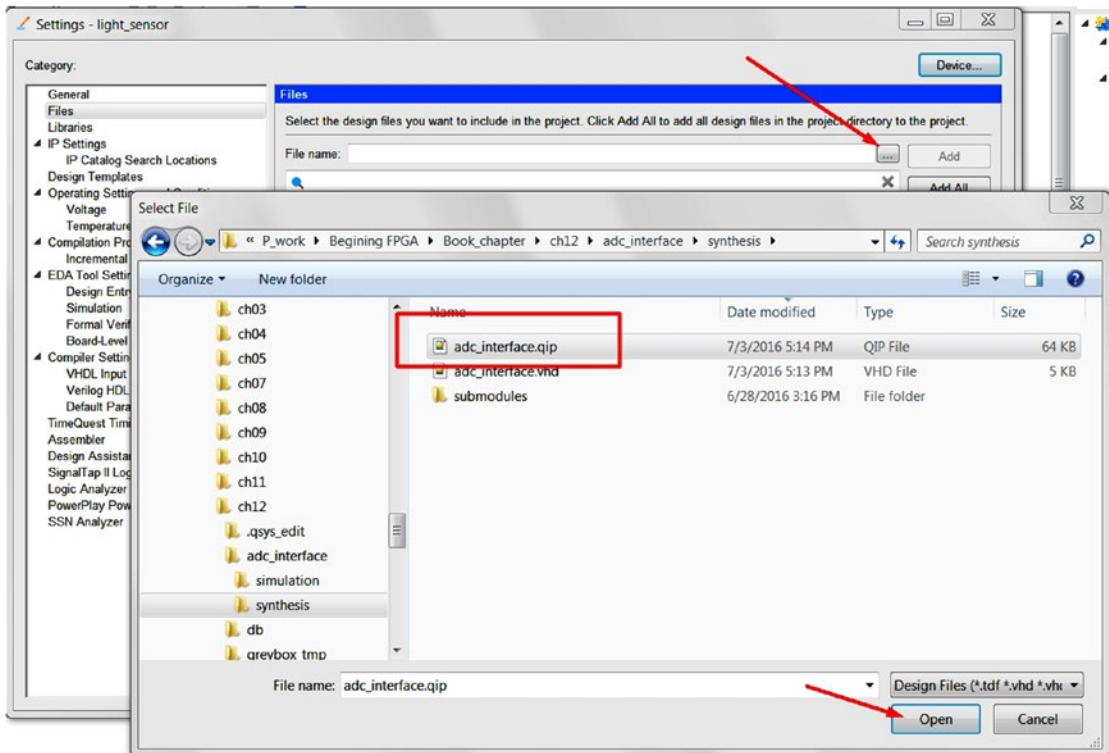

Figure 12-36. Add adc_interface.qip file to the project
Step 2: Browse ►project_directory►\adc_interface\synthesis\ and select **adc_interface.qip**. Click **Open** and then **Add** (Figure 12-36).